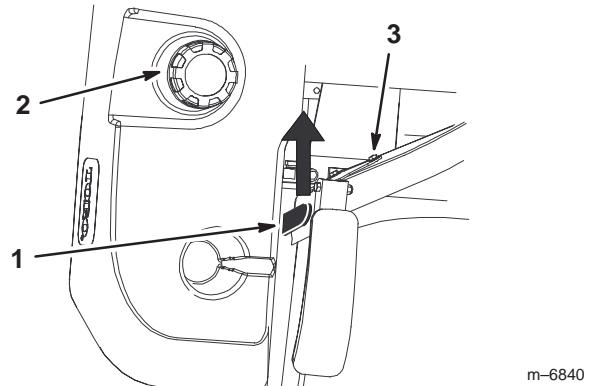

**Figure 26**
1. To adjust, turn the knob, under the rightside arm rest, in either direction to provide the best comfort (Fig. 26).